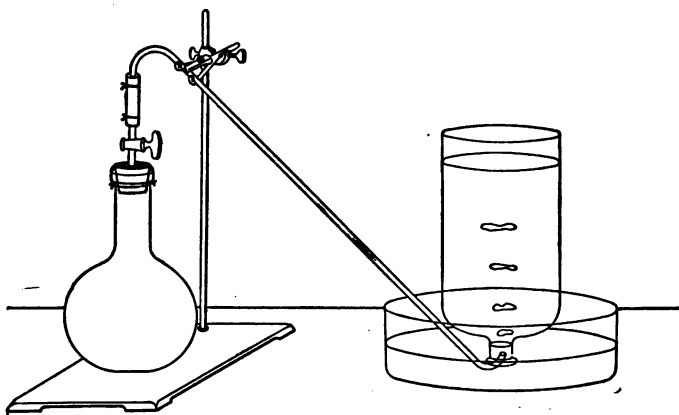

FIG. 22.
M. Yes; with the aid of a little rubber tubing I connect the delivery tube from the oxygen apparatus with the stop-cock, put a flask filled with water over the end, and now, if I open the stop-cock, the air which I pumped in will come out, and collect in the flask (Fig. 22). If you